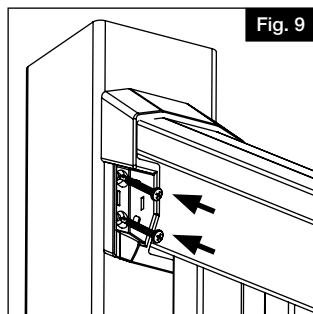

Fig. 9
- a. Mark all bracket holes. Pre-drill all bracket holes with $\frac{1}{8}$ " drill bit (Fig. 9).
- b. Drive screws through brackets into post using #10 x $1\frac{1}{2}$ " self-tapping square drive screws (4 per bracket) (Fig. 9).